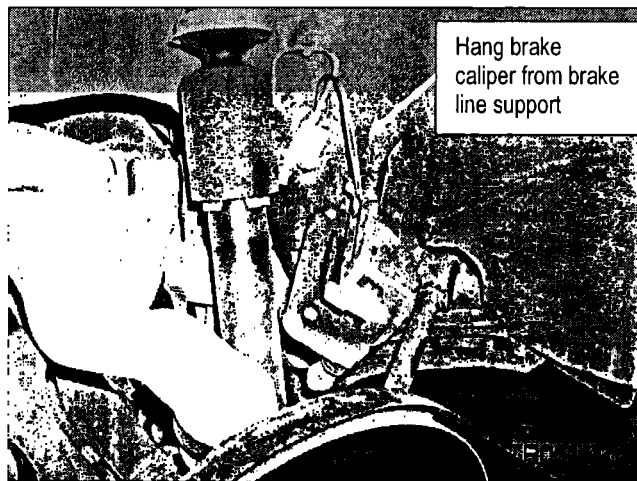

Figure 1
5. Remove both brake calipers and hang them from the brake line supports with wire (see Figure 1).